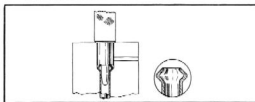

Fig. 9—First Flaring Operation
3. Using the flare forming tool having the concave die, J-1280-2, insert the forming tool in the die and strike firm blows, using a one pound hammer, until the shoulder of the tool contacts the top of the die. The cross section drawing (Fig. 9) shows the first step in forming the double-lap flare.